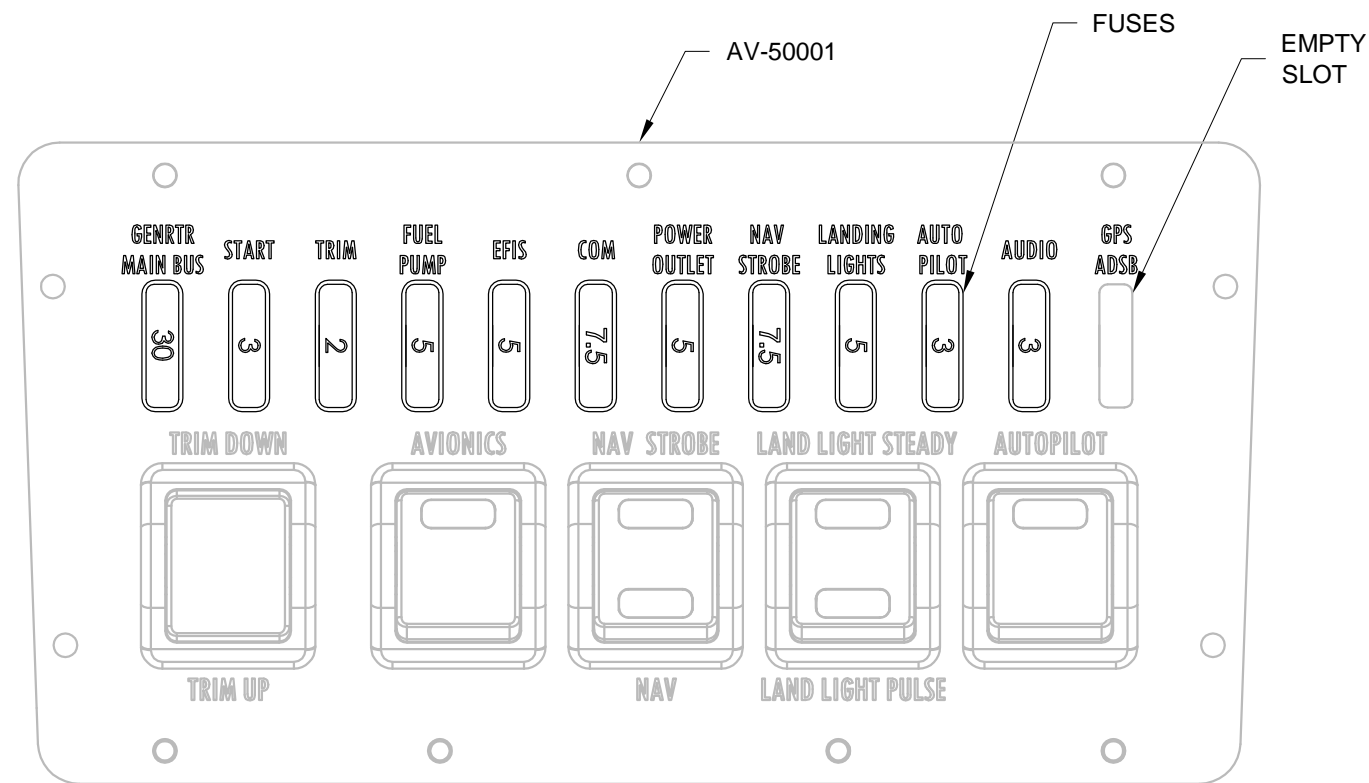

FIGURE 1: INSTALLING FUSES
Step 1: Install fuses in the AV-50001 Power & Switch Module as shown in Figure 1.